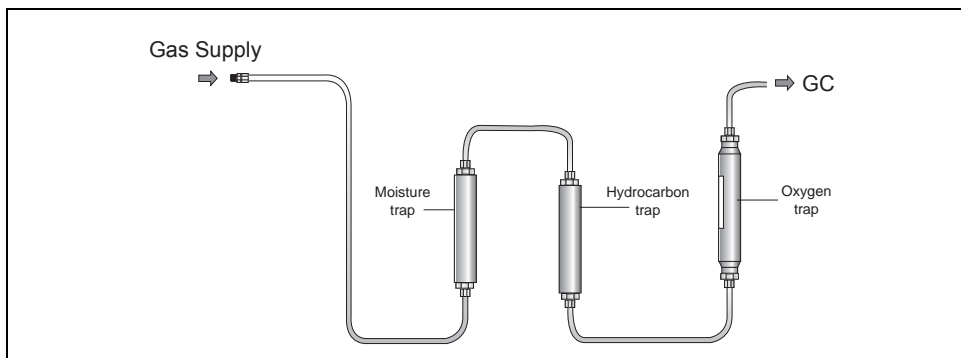

Figure 4-2. Gas Trap Order
You may wish to use traps, such as moisture or oxygen traps, in your gas supply line. Traps are especially necessary if you are unsure of the purity of your gas supplies. Refer to Gas and Plumbing Requirements in Chapter 1, *Laboratory Preparation*, for more information about gas purity requirements and appropriate traps for your GC. Figure 4-2 shows the proper order of traps in a gas supply line. Refer to your trap's instruction manual for specific purging and installation requirements.
1. Determine the location for the trap in your supply line. Figure 4-2 shows the recommended trap order.